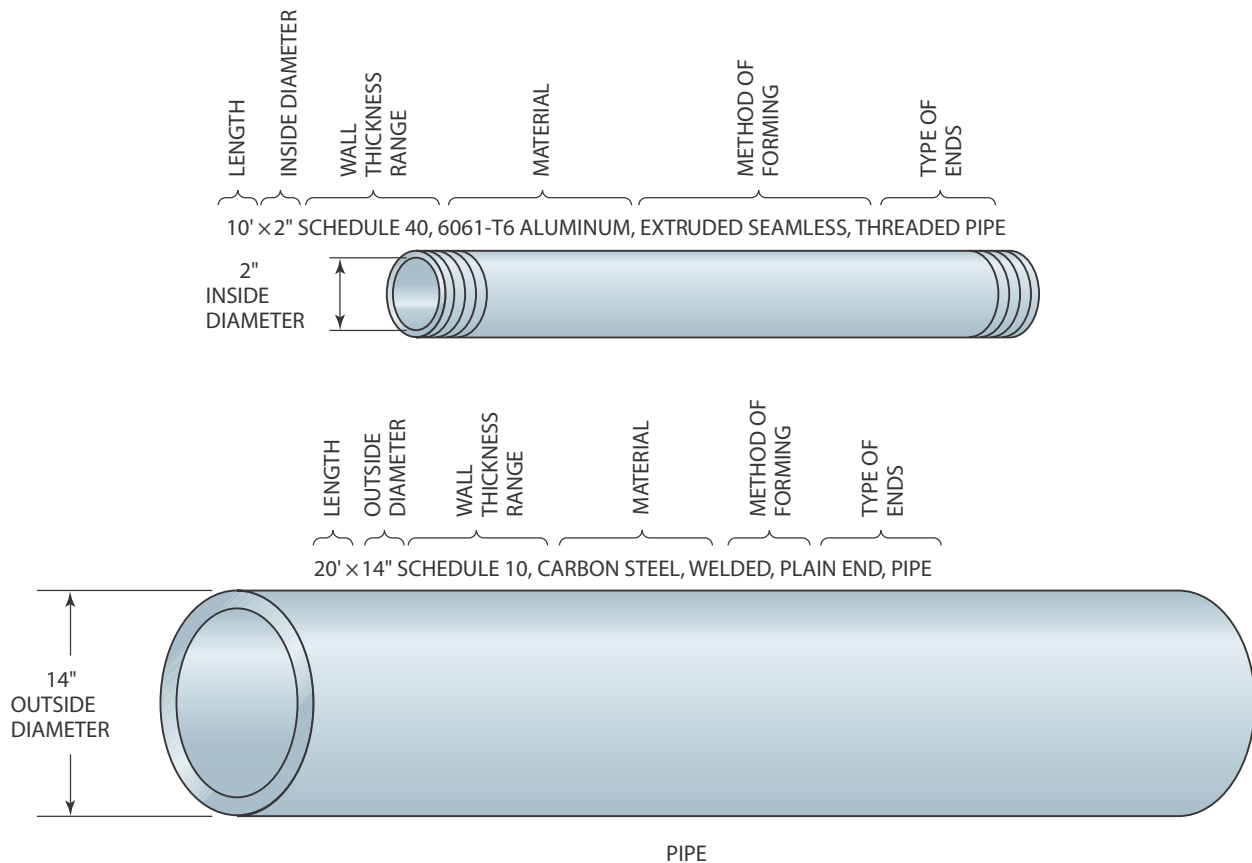

FIGURE 10-4 Typical specifications used when ordering pipe. © Cengage Learning 2012
The specifications for pipe sizes are given as the inside diameter (ID) for pipe 12 in. (305 mm) in diameter or smaller and as the outside diameter (OD) for pipe larger than 12 in. (305 mm) in diameter. The wall thickness for pipe is determined by its schedule. Schedules 10 through 180 are available; schedule 40 is often considered a standard strength, Figure 10-4.